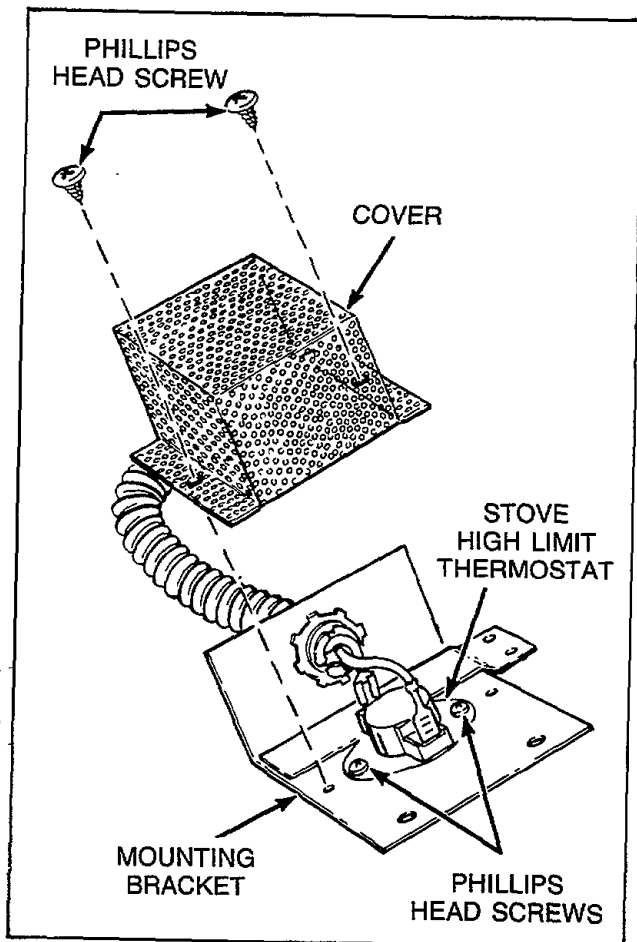

Figure 30
- g. Remove two Phillips head screws, *Figure 30*, holding cover to mounting bracket.
- i. Remove two Phillips head screws holding thermostat to mounting bracket, *Figure 30*.